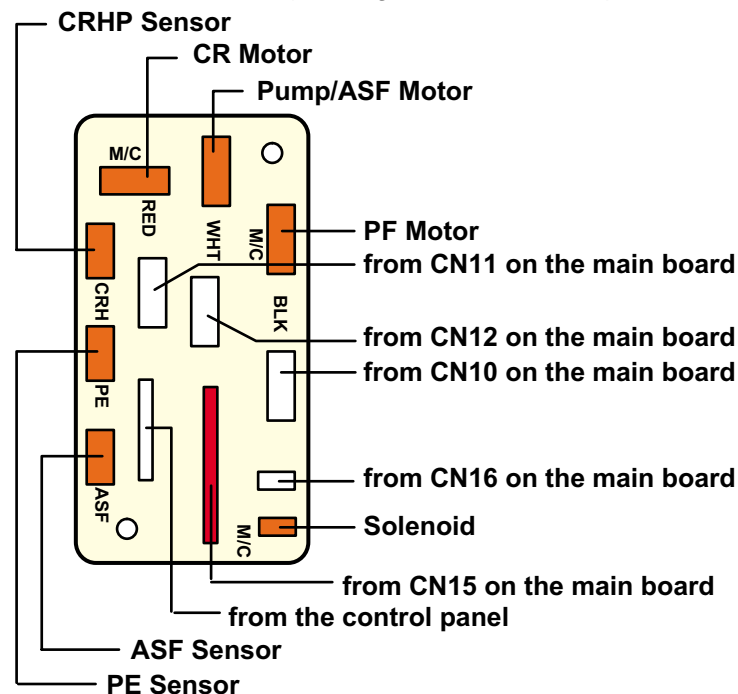

Figure 4-5. Connector Location
3. Disconnect the following connectors from the relay board. (The connectors to be disconnected are colored red in Figure 4-5.)
When assembling, be sure to connect the connectors properly as shown in Figure 4-5.
2. Remove all connectors from the relay board. (See Figure 4-5 when connecting them.)
3. Remove the remaining four connectors from the relay board. (See Figure 4-5 when connecting them.)